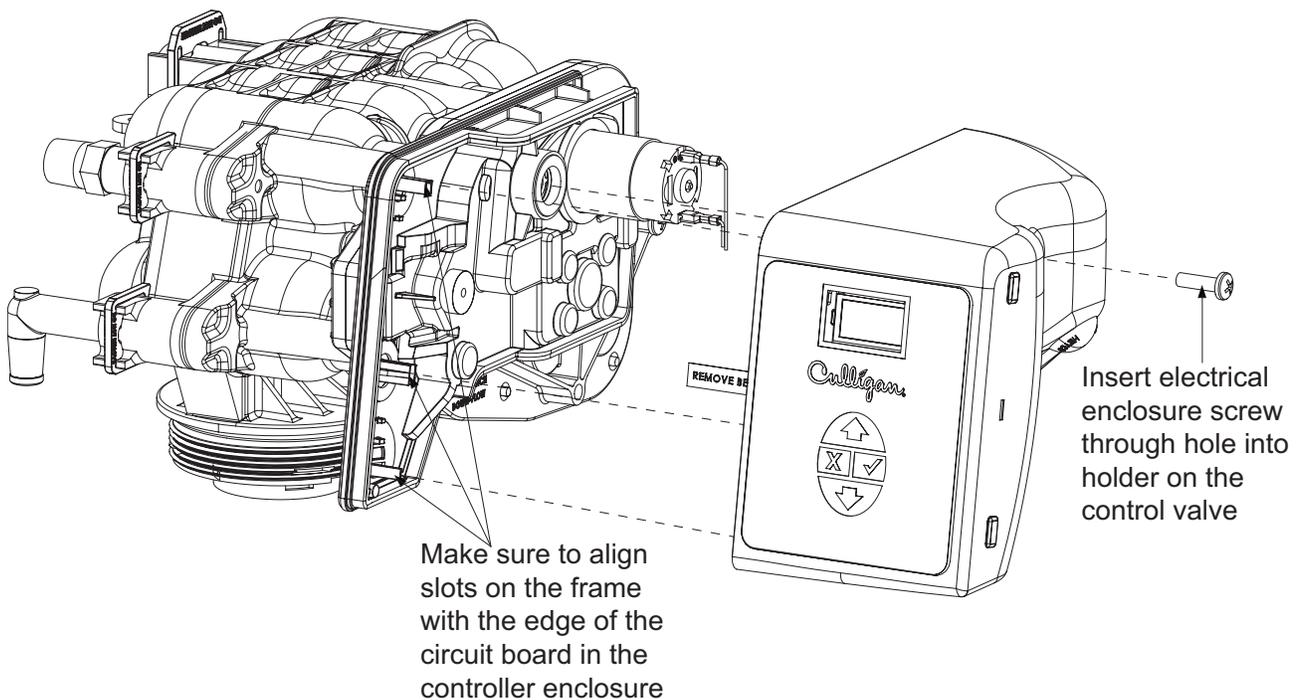

Figure 30. Attaching enclosure cover to control valve.
The 24V power supply and flow meter wire harness is already connected to the circuit board. If no other circuit board connections are required proceed to the First Time Setup. Refer to the instructions below and Figure 17 to Figure 30 for connecting accessories, including the Aqua-Sensor probe wire harness, to the circuit board.
3. Place the enclosure onto the control valve, aligning the circuit board edge with the slots on the control valve frame and the screw on the enclosure with the hole on the cover. See Figure 30.